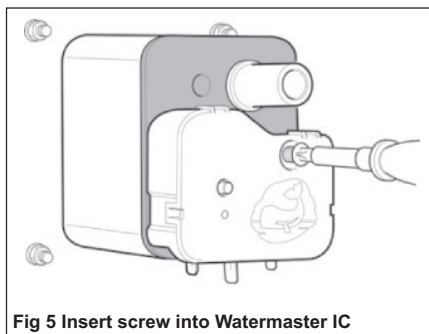

Fig 5 Insert screw into Watermaster IC
Step 6 - Plug Watermaster IC onto socket (see Fig 5) and tighten screw (**NB - Do Not Overtighten**)